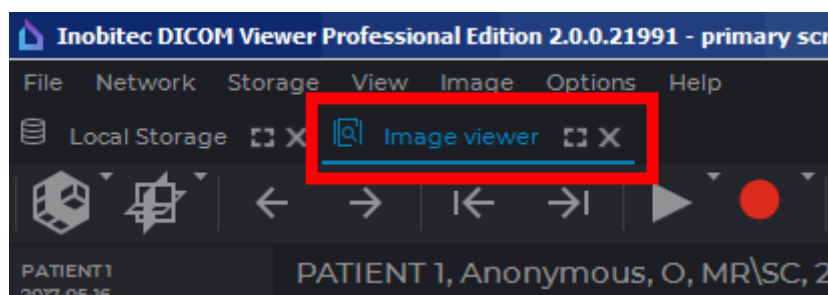

Figure 2.7: Study view tab button
3. Select another study and drag one of its series to the tab with the opened study (highlighted in red in Fig. 2.7).